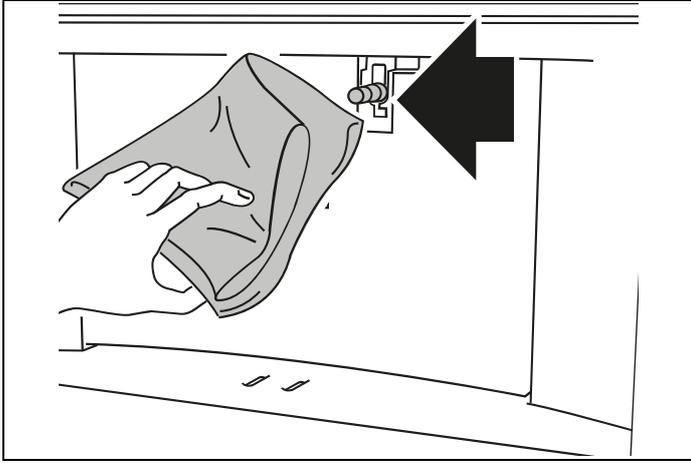

Fig. 39
- 5) Remove the milk container and always clean the steam connection nozzle (A10) with a clean cloth (Fig. 39).